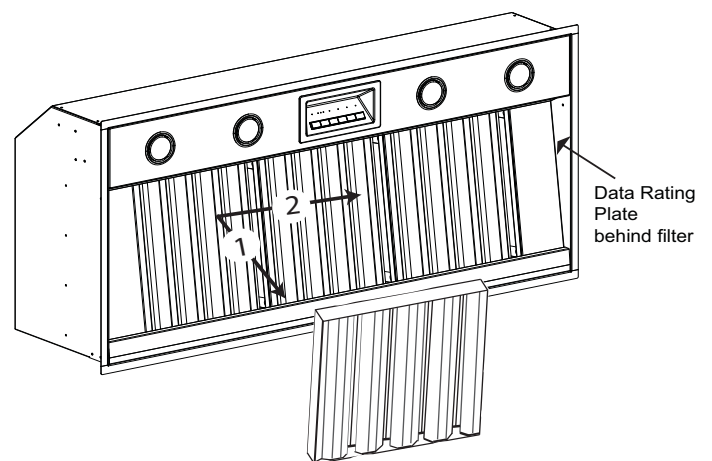

Figure 6: Data Rating Plate Location
- The rating label and serial number labels are on the hood filter spacers and are visible after the filters have been removed (*Figure 6 on page 8*).
The data rating plate shows the model and serial number. Refer to the data plate on the appliance when requesting service. It is located on the frame behind the filter. Remove the filter to view it (*Figure 6*).